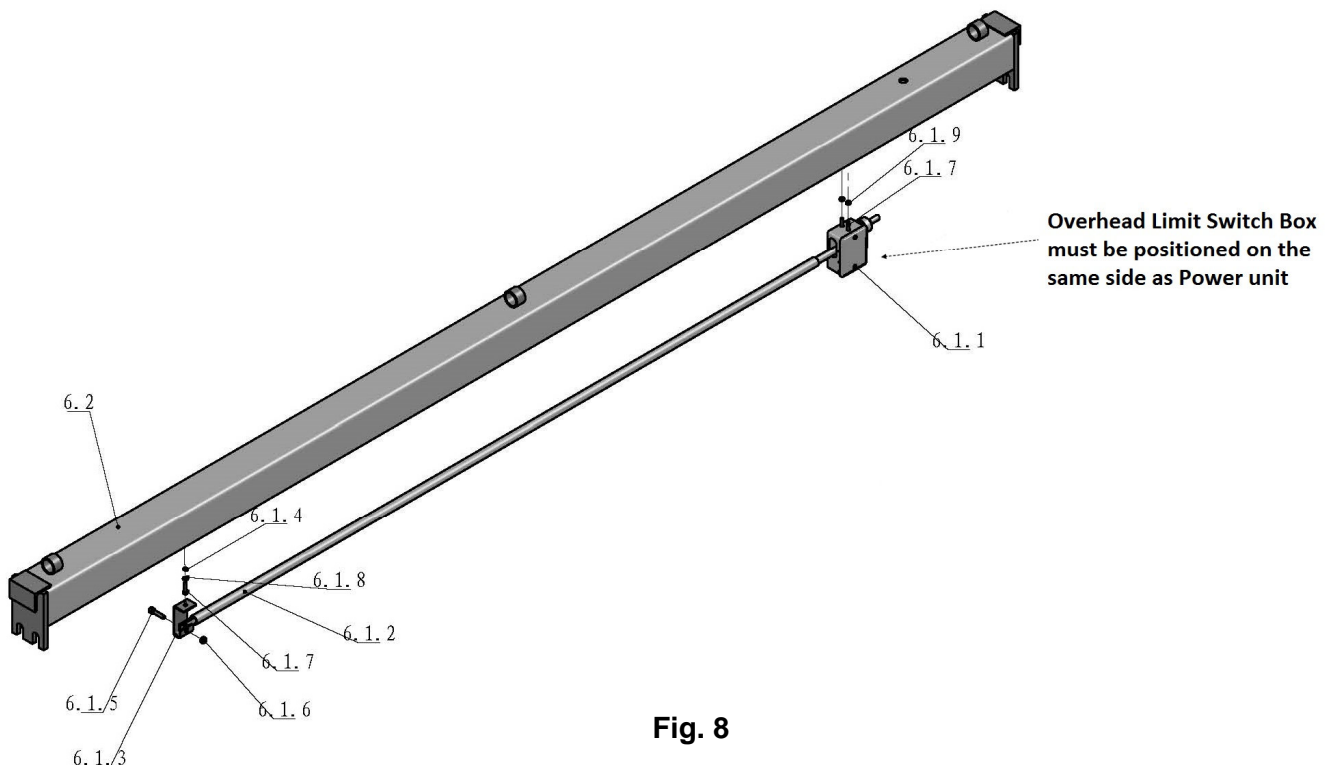

Fig. 8
2. Assemble and mount the Overhead 'padded' Shut-Off Bar & Limit Switch assembly to the Overhead Beam, as shown below in **(Fig 8)**.